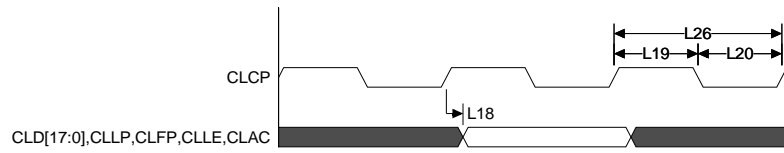

Figure 134: LCD output timing
- 7 Note that data is sampled by the LCD panel on the falling edge of the CLCP in Figure 134, "LCD output timing," on page 788). If the polarity of CLCP is inverted, this parameter is relative to CLCP falling instead.